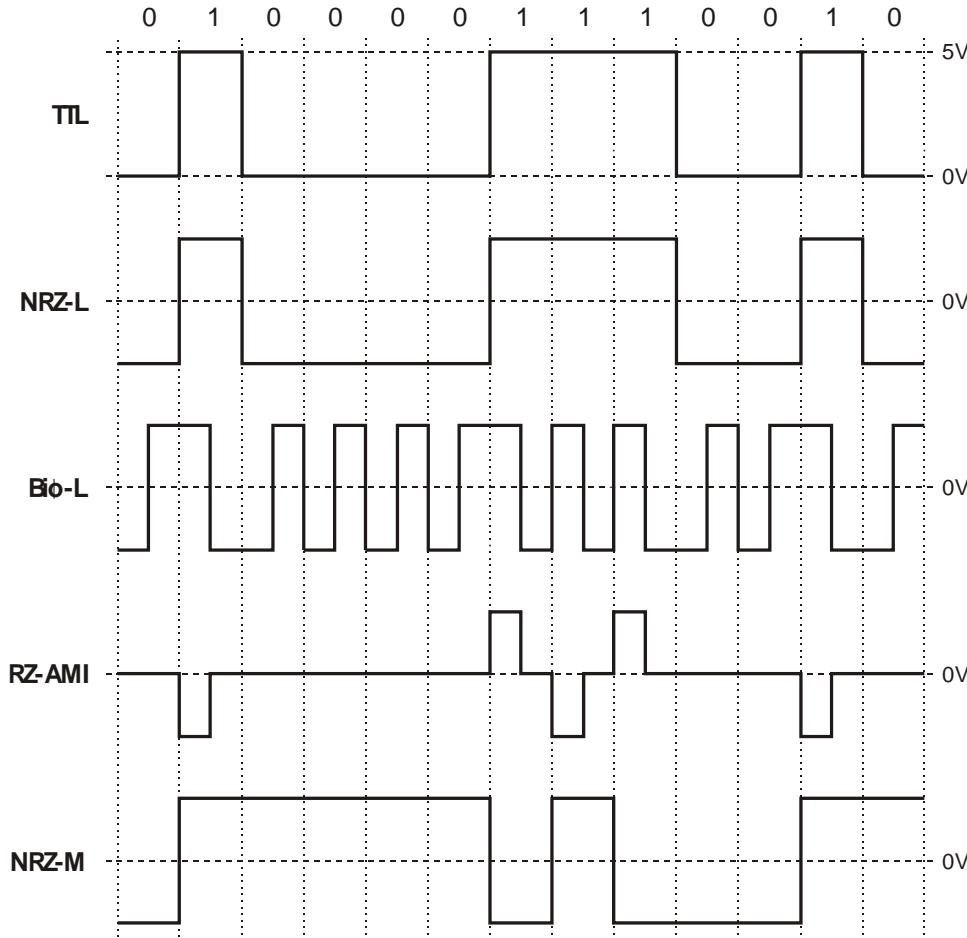

Figure 1
- **Non-return to zero – level (bipolar) (NRZ-L):** As you can see from Figure 1 on the next page, this code is a simple scale and level shift of the original digital signal.
- **Bi-phase – level (BiΦ-L also known as Manchester code):** Figure 1 shows that this code changes state from +V to -V in the middle of the bit period for all logic-1s and changes from -V to +V in the middle of the bit period for all logic-0s. For consecutive bits with the same logic level, the voltage must invert after half a bit length in order to satisfy this rule for the next bit.
- **Return to zero – alternate mark inversion (RZ-AMI):** Figure 1 shows that this code uses 0V to represent logic-0 and a half-bit pulse to represent logic-1. Importantly, the polarity of the pulses alternates for every successive logic-1 (even if they're not consecutive bits).
- **Non-return to zero – mark (bipolar) (NRZ-M):** Figure 1 shows that this code changes state for each new logic-1 and doesn't change state for any logic-0s.